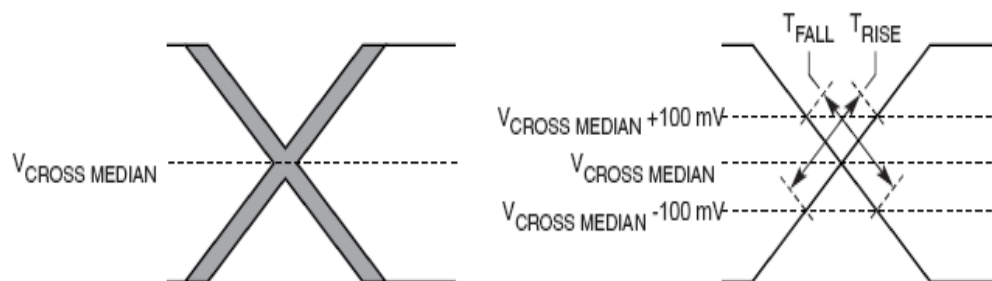

Figure 42. Single-ended measurement points for rise and fall time matching
6. Matching applies to the rising edge for SDn_REF_CLK and falling edge rate for $\overline{\text{SDn_REF_CLK}}$. It is measured using a 200 mV window centered on the median cross point where SDn_REF_CLK rising meets $\overline{\text{SDn_REF_CLK}}$ falling. The median cross point is used to calculate the voltage thresholds that the oscilloscope uses for the edge rate calculations. The rise edge rate of SDn_REF_CLK should be compared to the fall edge rate of $\overline{\text{SDn_REF_CLK}}$, the maximum allowed difference should not exceed 20% of the slowest edge rate. See Figure 42.